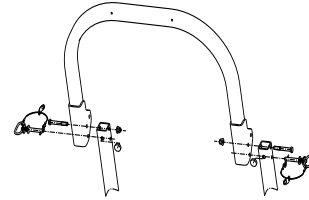

Fig. 4 U-tube Installation
3.2.3 Install the U-tube at the upper end of the ROPS (as shown in Fig. 4)